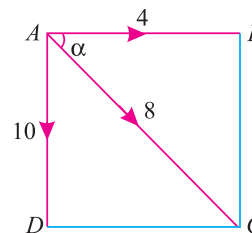

Fig. 3.14.
**Solution.** The system of forces is shown in Fig. 3.14